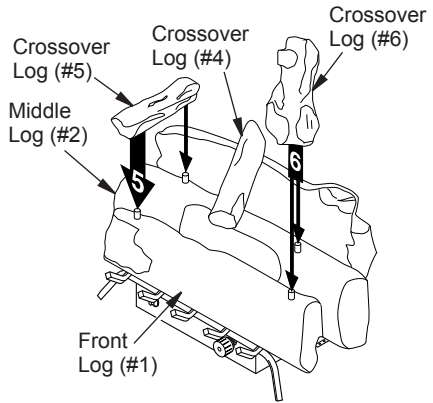
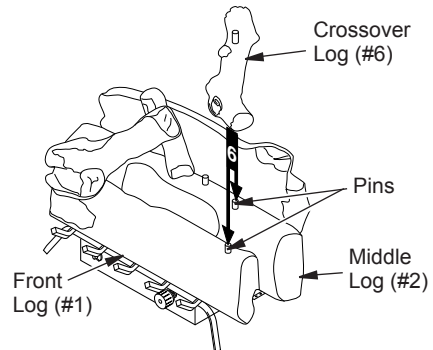

Figure 24 - Installing Crossover Log #5 and Log #6 (CCL3018PA/NA and CCL3018PTA/NTA Only)
Figure 25 - Installing Crossover Log #6 (CCL3930PTB/NTB Shown)
- For **CCL3018PA/NA** and **CCL3018PTA/NTA** Only: Locate holes on the bottom of crossover log (#5). Slide the holes over the left pins on middle log (#2) and front log (#1). See Figure 24.
- Locate holes on the bottom of crossover log (#6). Slide these holes onto the right pins located in middle log (#2) and front log (#1). See Figure 25 for **CCL3924PTA/NTA** or **CCL3930PTB/NTB**. See Figure 24 for **CCL3018PA/NA** or **CCL3018PTA/NTA**.